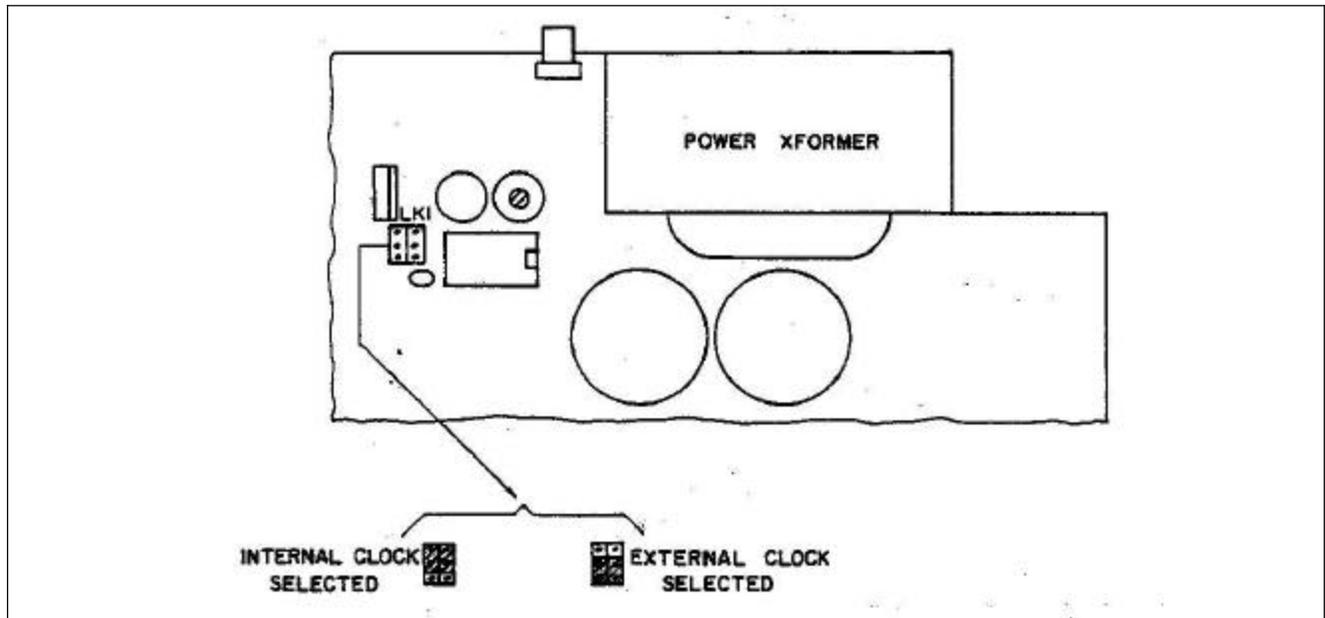

Figure 5-2. External/Internal Time Base Clock Selection.
B. For a Model 6030, refer to Figure 5-2 for shorting link locations on the main board. LK1 (a and b), which is located at the rear of the instrument near the power transformer, selects the internal or external reference.